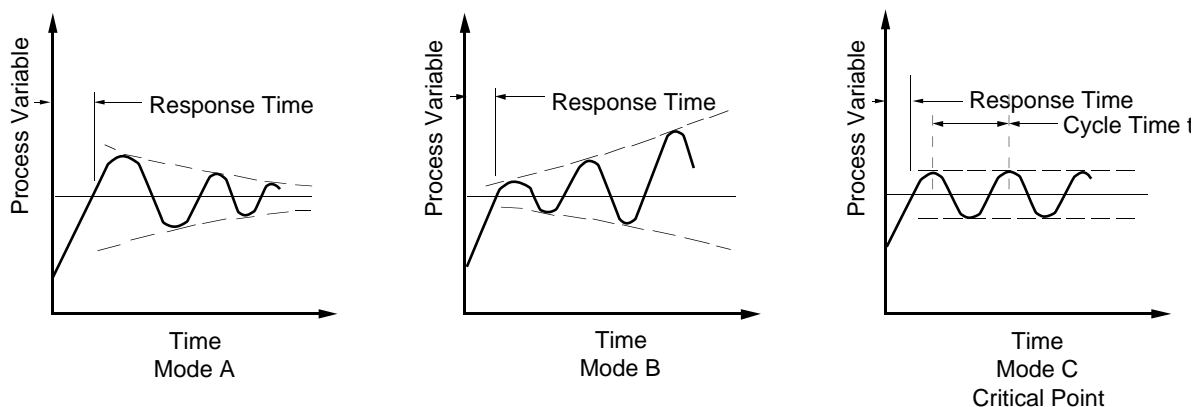

Fig. A1.1 Control Conditions
- Start up the process or change the load and note the response time (Fig A1.1). This gives an indication of the time to be allowed between successive adjustments of the controls.
**Note.** If the system goes into oscillation with increased amplitude (Mode B, Fig. A1.1) with the initial settings as specified at step a), set the **Proportional Band** to 200%.
- Reduce the **Proportional band** by 20% steps and observe the response. Continue until the process cycles continuously without reaching a stable condition, i.e. it exhibits a sustained oscillation with constant amplitude (Mode C, Fig. A1.1). This is the critical point.
- Note the cycle time 't' of the process at the critical point (Fig. A1.1) and the **Proportional Band** width (critical value).